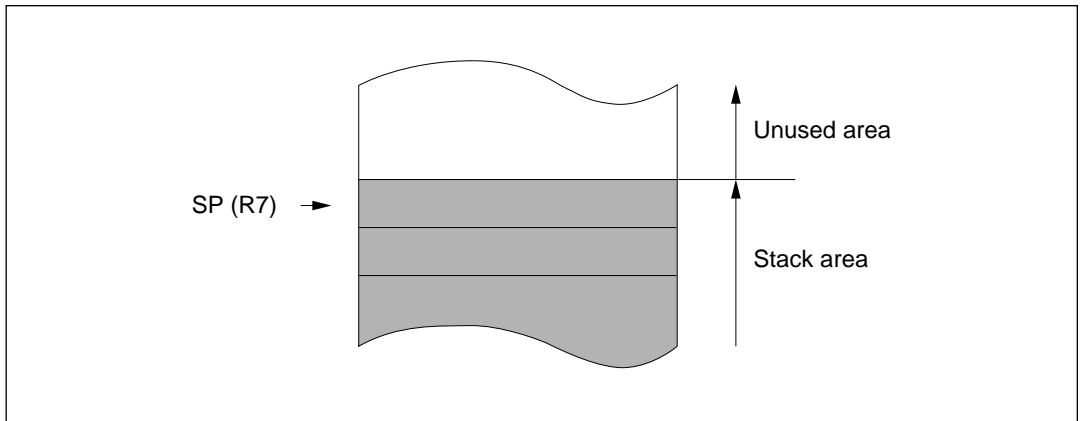

Figure 2-2 Stack Pointer
R7 also functions as the stack pointer, used implicitly by hardware in processing interrupts and subroutine calls. In assembly-language coding, R7 can also be denoted by the letters SP. As indicated in figure 2-2, R7 (SP) points to the top of the stack.